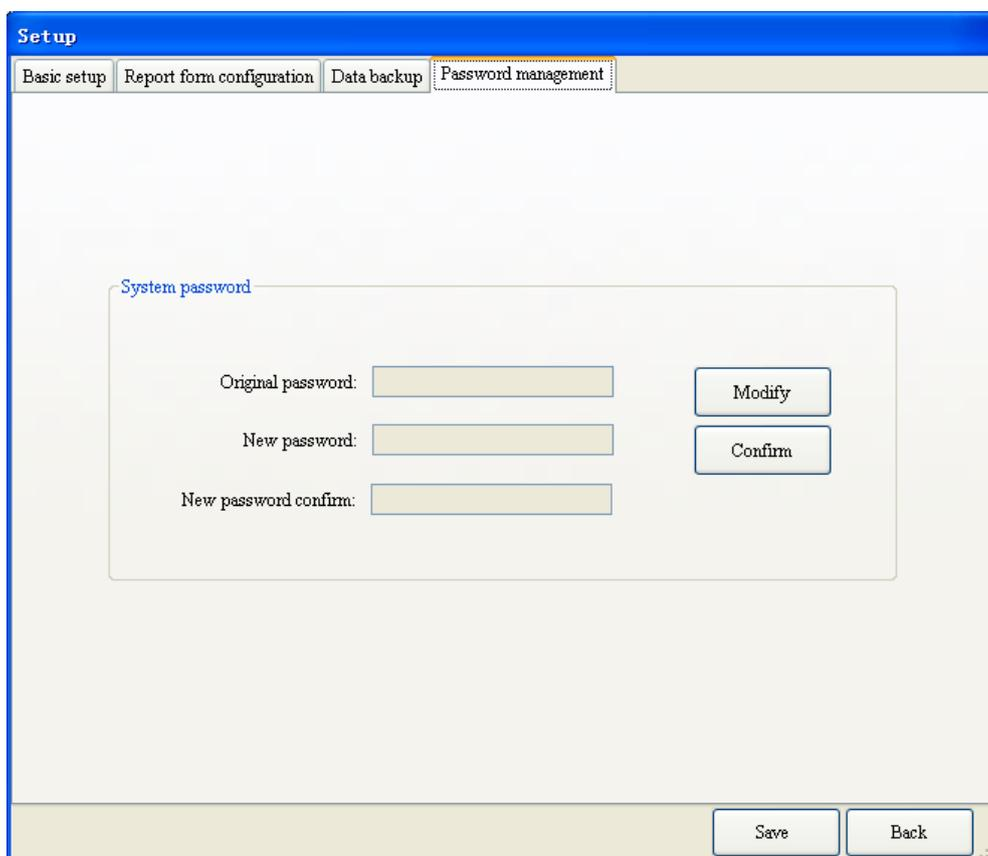

Fig. 5-1-5
3. Password management: Click on the “Password Management” on the Setting window, popup the window as Fig.5-1-5.